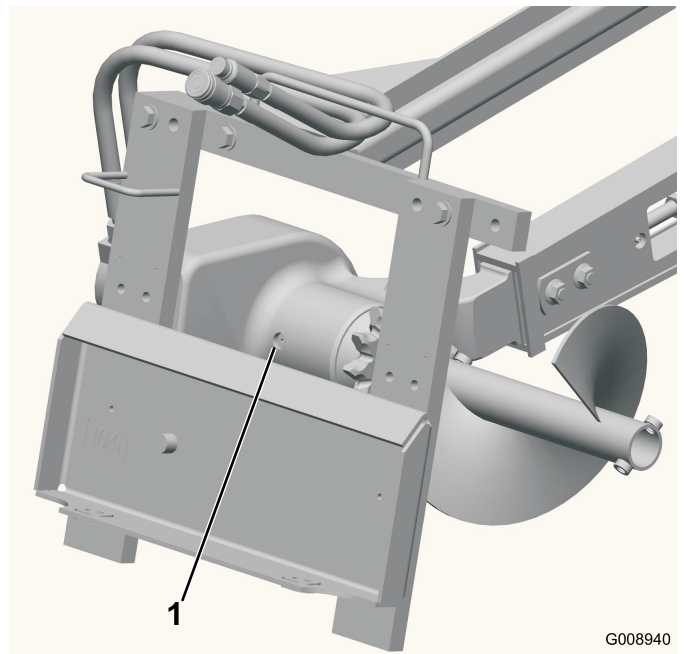

Figure 6
2. Clean the area around the fill-hole plug on the bearing case (Figure 6).
3. Remove the plug from the bearing case fill hole (Figure 6).